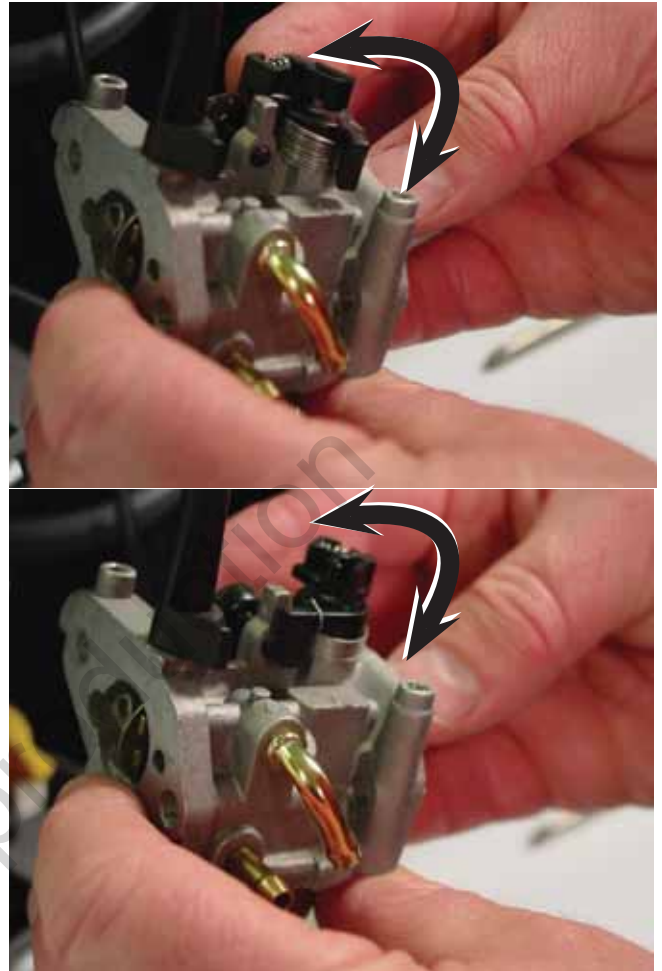

Figure 42
4. Actuate the throttle lever to check for proper movement (Figure 42). The lever should move freely in both directions.